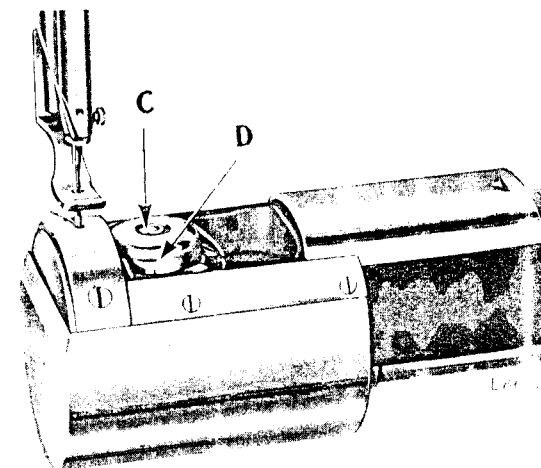
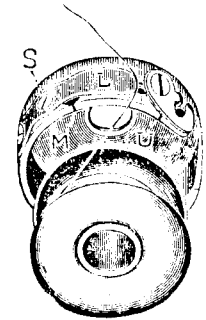
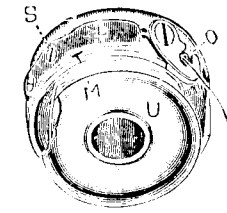

Fig. 3. Bobbin Case Cap in Position in Machine
Fig. 5
Fig. 6
Place the thumb nail in the groove (D, Fig. 3) in the side of the bobbin case cap, lift the cap and remove the bobbin.
With the left hand hold the bobbin case cap and place the bobbin into it, as shown in Fig. 5.
Draw the thread under the bobbin case tension spring (L, Fig. 5) and into the slot (M, Fig. 5), back under the tension spring (L), into the slot (U, Fig. 5) and out under the thread guide (O) as shown in Fig. 6. After threading the bobbin case cap, place it on the bobbin case base and push down the latch (C, Fig. 3).
The tension on the bobbin thread is regulated by means of the screw (S, Fig. 5) nearest the centre of the bobbin case cap tension spring. To increase the tension, turn this screw over to the right. To decrease the tension turn the screw over to the left.